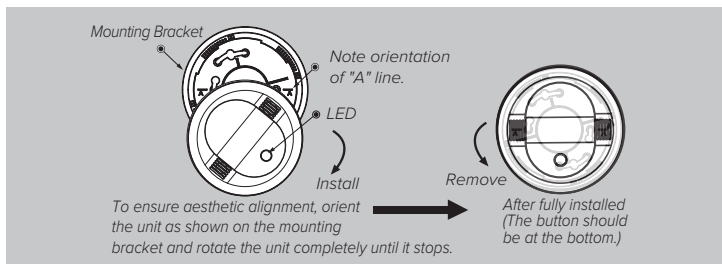

Figure 9-E
- Install the alarm fully on the mounting bracket by rotating the alarm in a clockwise direction (Figure 9-E).